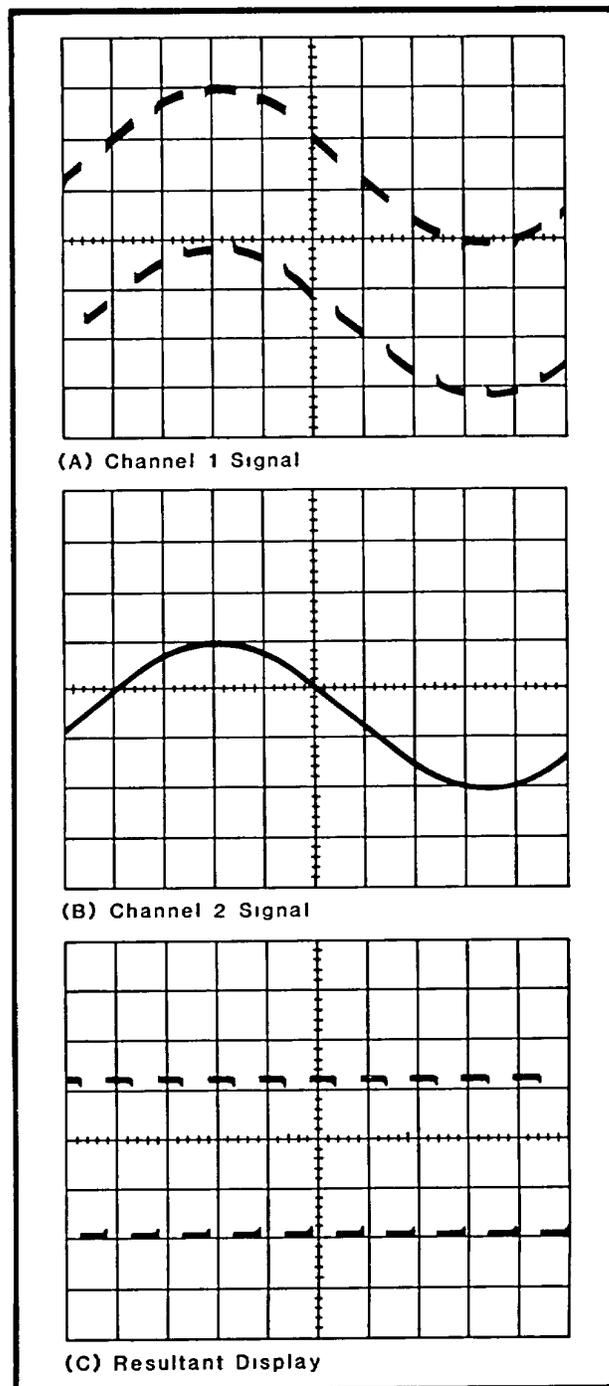

Fig. 1-8. Using the ADD mode for common mode rejection.
3. Connect a signal similar to the unwanted portion of the CH 1 signal to the CH 2 input connector. For example, in Fig. 1-8 a line-frequency signal is connected to Channel 2 to cancel out the line-frequency component of the Channel 1 signal.
EXAMPLE: An example of this mode of operation is shown in Fig. 1-8. The signal applied to Channel 1 contains unwanted line-frequency components (Fig. 1-8A). A corresponding line-frequency signal is connected to Channel 2 (Fig. 1-8B). Fig. 1-8C shows the desired portion of the signal as displayed when common mode rejection is used.